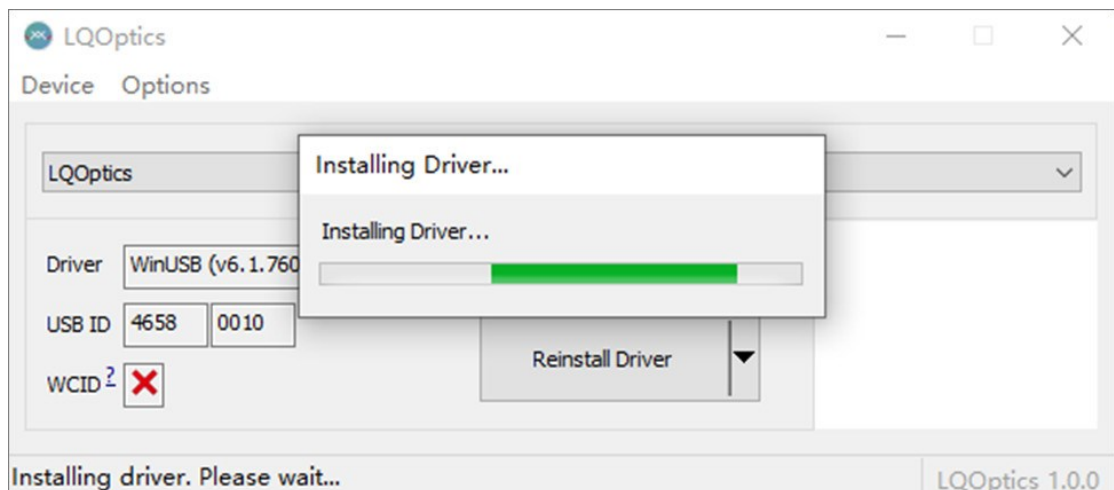

Figure 2.1
- Click to open DRIVER, the driver will run automatically to complete the installation, as shown in Figure 2.1.